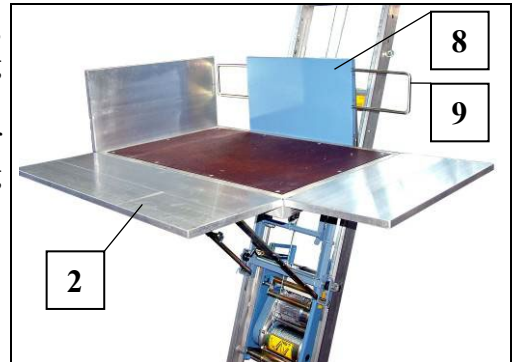

Fig. 54 Adjusting boards
- The front board (8) can also be unfolded (e.g. for easier loading on the upper ladder track end).
- Push protective clamp (9) in (see Fig. 54).
- Lift board (8) up, unfold and push into the frame of the platform.